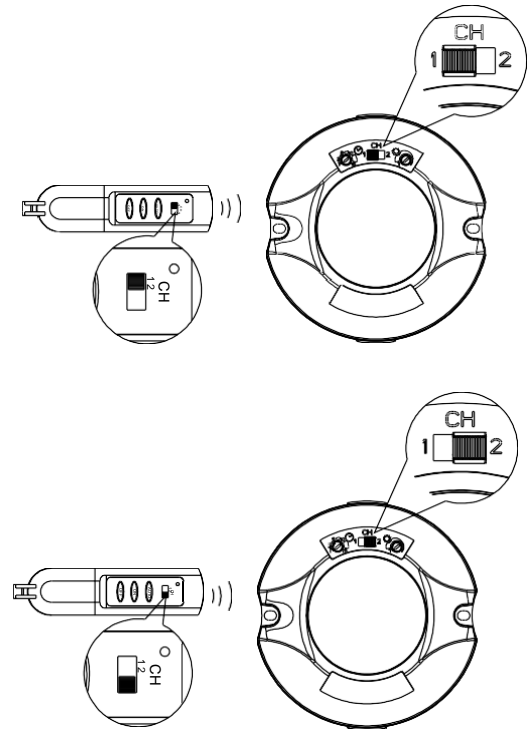

FIGURE 14a & 14b
**Please ensure that the motion sensor and IR controller are set at the same channel (channel 1 or channel 2).** (FIGURE 14a & 14b)